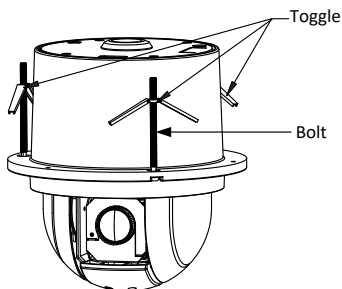

Figure 2-15 Install the Toggle Bolts
- (1) Remove the toggle from the toggle bolt.
- (2) Insert the bolts into the screw holes on the dome.
- (3) Rotate the bolts through the screw holes.
- (4) Reinstall the toggles as shown in Figure 2-15.